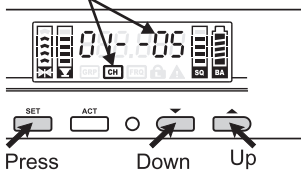

Fig. 12
(B) CH: CHANNEL Setting. Fig. 12